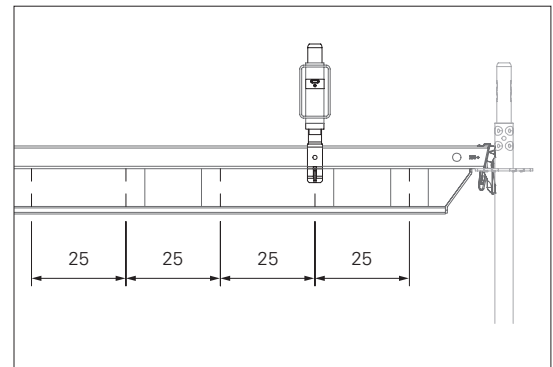

Fig. A8.02a
2. Fit the UH Spigot-2 (**39**) onto the horizontal ledger (**3**) in 25 cm increments. (Fig. A8.02a)